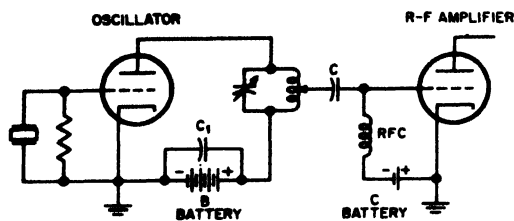

Fig. 40-2. The direct or capacitive method of coupling the oscillator to the radio-frequency amplifier.
**Methods of Coupling—Capacitive Coupling.** There are a number of methods for coupling the oscillator to the radio-frequency amplifier. Simplest is the *direct* or *capacitive-couple* method (Fig. 40-2). Here, the *signal* or *excitation* is fed from the tank circuit of the oscillator, through the coupling capacitor (C), to the grid of the amplifier tube. The coupling capacitor also serves to keep the direct current of the oscillator off the grid of the amplifier tube.